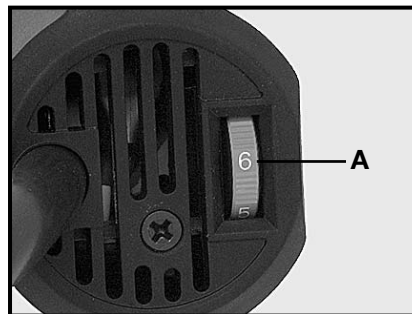

Fig. 2A
Speed is adjusted by turning thumbwheel (A), Fig. 2A. Thumbwheel position #1 provides the slowest operating speed (2500 OPM) and position #6 the fastest (6000 OPM). Speed may be changed while motor is running or while it is stopped.